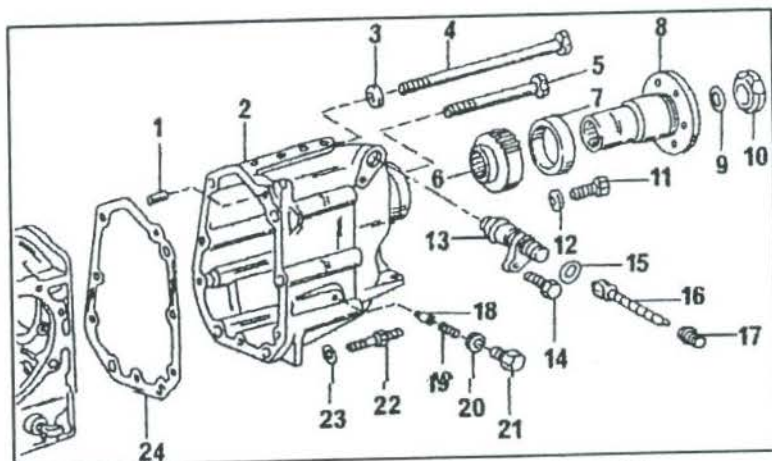
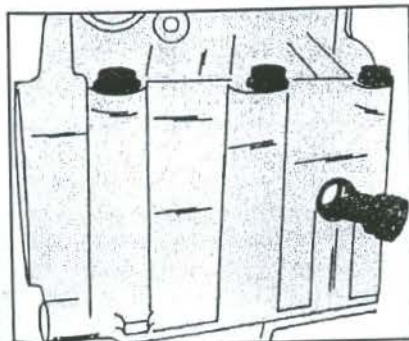

Fig. 3.8 – The component parts of the rear gearbox cover.
Fig. 3.9 – The gearchange detent is located underneath the plug.
- Remove the screws securing the gearbox cover. On one side of the gearbox remove a plug and remove the selector detent and a spring (see Fig. 3.9).
- Remove the old oil seal out of the cover (screwdriver) and remove the speedometer drive shaft. The dismantled cover is shown in Fig. 3.8.
- Coat the cover screws with "Loctite" and tighten the screws with the torque values given in Fig. 3.8.
- Fit the plug shown in Fig. 3.9 with items 18 to 20 in Fig. 3.8 into the transmission cover and tighten the plug to 3.0 – 3.5 kgm (22 – 25 ft.lb.).